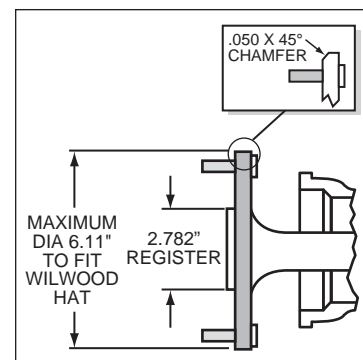

Figure 5. Axle Flange Maximum Dimension
- Maximum axle flange diameter must be no larger than 6.11" w/.050" x 45° chamfer (see Figure 5).